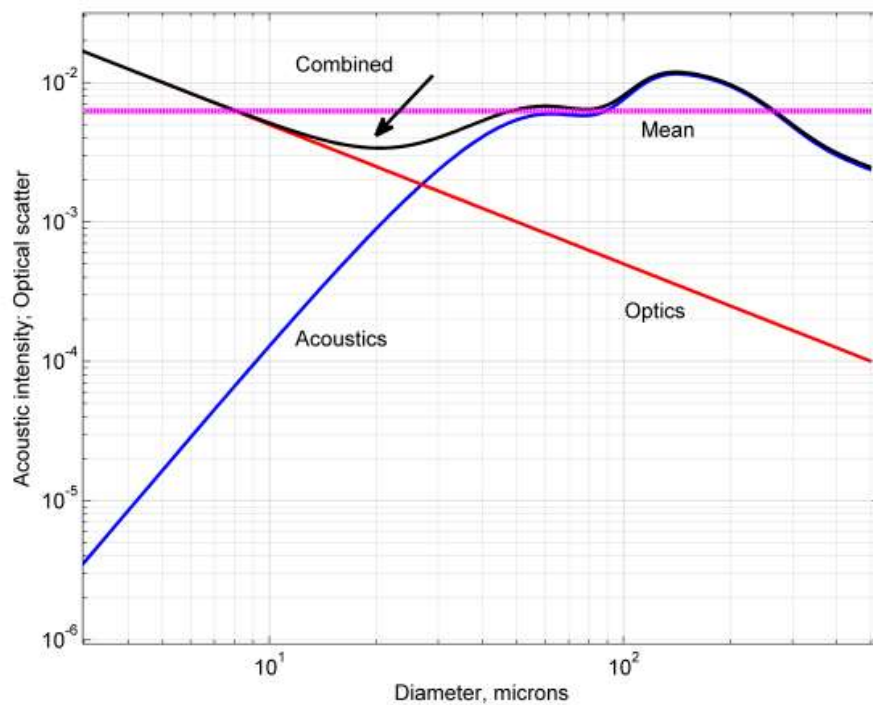

Figure 1: ABS and OBS response versus particle size
Figure 1 shows the contrast between the ABS (blue curve) and turbidity (red) sensor responses versus particle size. For particles larger than about 30 μm , the ABS response is relatively flat, while the response of the turbidity (OBS) sensor is strongest for smaller sizes.
Intuitively, we can see from Figure 1 that adding the two sensor responses will produce a curve that is “flatter” than either curve alone, but it is not obvious what value of P is optimum. From a combination of theory and experiment, we find that the optimum pairing factor is
- Version 1.1 Improved figure 1. March, 2020